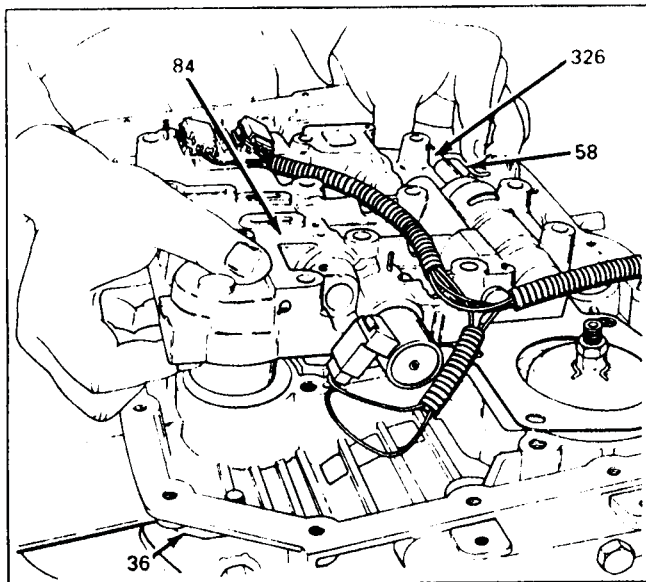

Figure 127
14. Position the pre-assembled main case valve body to the case, as shown in Figure 127, connecting the manual valve link to the manual valve and lowering the main case valve body into place.